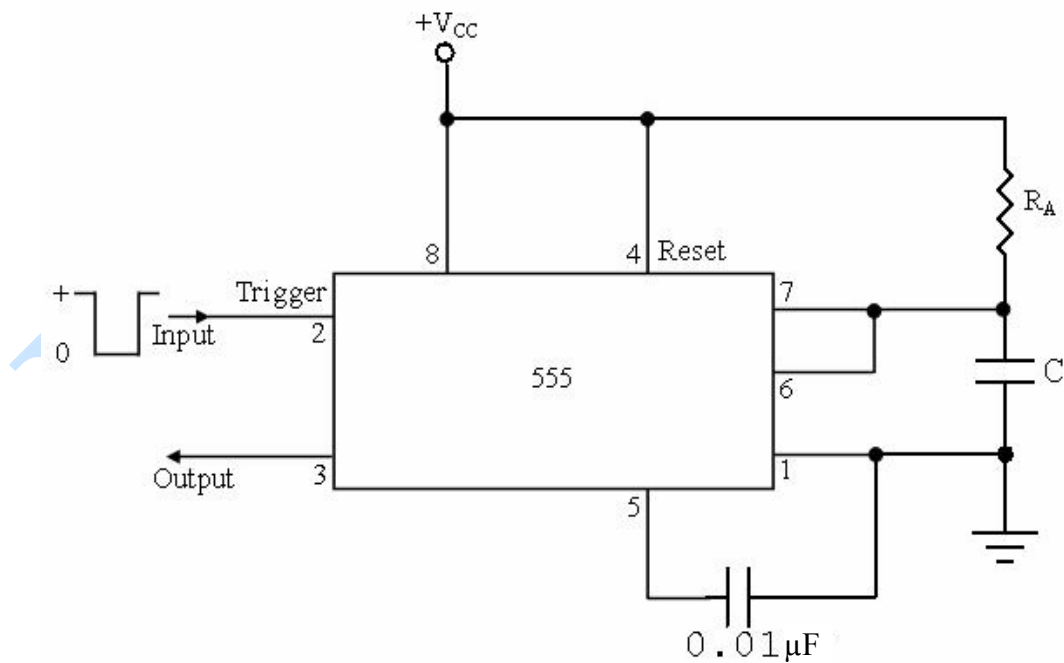

Figure 7: Monostable multivibrator
A 555 timer connected for monostable operation is shown in Figure 7. The circuit has an external resistor and capacitor. The voltage across the capacitor is used for the threshold to pin 6. When the trigger arrives at pin 2, the circuit produces output pulse at pin 3.
1. Connect the circuit as shown in Figure 7 with the calculated values of R and C .